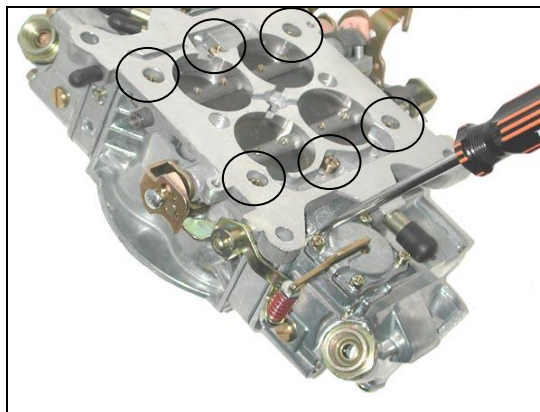

Figure 2
5. Now, separate the metering block from the fuel bowl. Turn the assembly over (with its bottom side up) and using the accelerator pump housing as leverage, carefully "pry" outward on the bottom of the metering block (where the aluminum plug is located) until separated. See **Figure 2**.
- Using a #3 Phillips screwdriver, remove the six (6) throttle body screws (note their locations for re-assembling) that attach the throttle body to the main body and separate (refer to circles in **Figure 2**). Discard the gasket. **NOTE:** Some older carburetors may have utilized 8 throttle body screws, but only use the 6 identified in **Figure 2**.